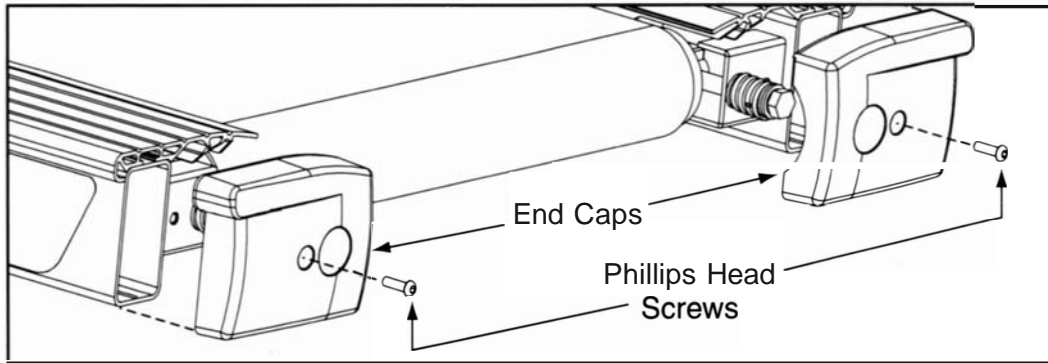

Figure 2
- A. Remove the Phillips head screws that fasten each of the plastic end caps in place and set aside. See Figure 2.